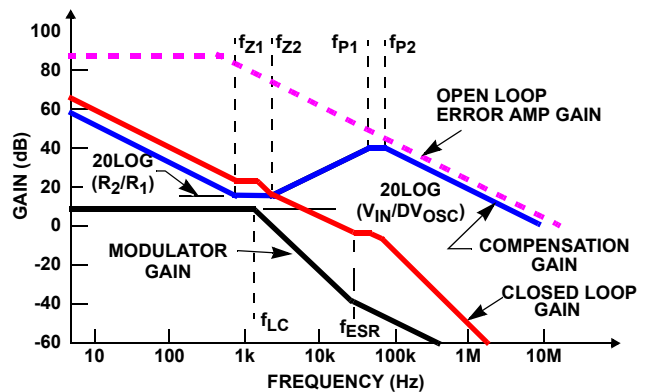

FIGURE 59. ASYMPTOTIC BODE PLOT OF CONVERTER GAIN
Figure 59 shows an asymptotic plot of the DC/DC converter's gain vs frequency. The actual modulator gain has a high gain peak due to the high Q factor of the output filter and is not shown in Figure 59. Using the guidelines provided should give a compensation gain similar to the curve plotted. The open-loop error amplifier gain bounds the compensation gain. Check the compensation gain at f_{P2} with the capabilities of the error amplifier. The closed-loop gain is constructed on the graph of Figure 59 by adding the modulator gain (in dB) to the compensation gain (in dB). This is equivalent to multiplying the modulator transfer function to the compensation transfer function and plotting the gain. The compensation gain uses external impedance networks Z_{FB} and Z_{IN} to provide a stable, high bandwidth (BW) overall loop. A stable control loop has a gain crossing with -20dB/decade slope and a phase margin greater than $+45^\circ$. Include worst case component variations when determining phase margin. A more detailed explanation of voltage mode control of a buck regulator can be found in Tech Brief TB417, entitled "Designing Stable Compensation Networks for Single Phase Voltage Mode Buck Regulators".